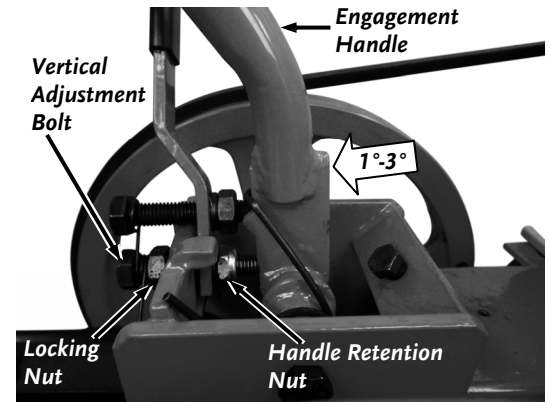

Figure 17
Only perform this adjustment if your Engagement Handle is kicking back excessively when splitting a log. If you confirm that the Engagement handle is adjusted properly as shown in **Figure 17**, there may be another issue. If you have any questions, contact us at www.DRpower.com or call 1-800-DR-OWNER (376-9637) for assistance.
2. Push the Two Hand Operation Lever to the side and move the Engagement Handle forward until it contacts the Vertical Adjustment Bolt (**Figure 17**).